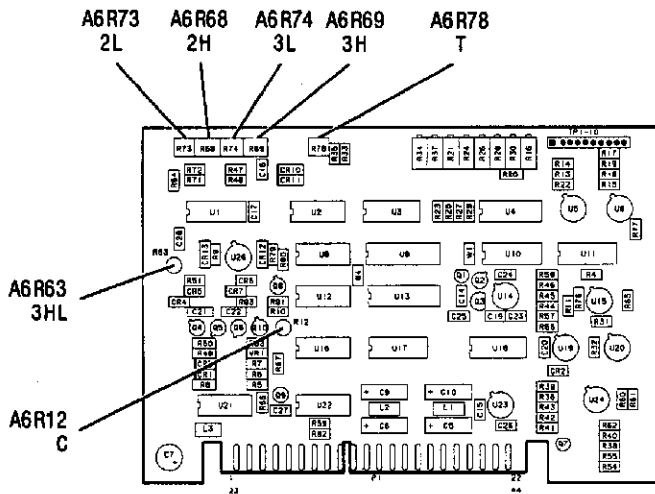

Figure 5-22. SRD Bias Adjustment Locations
5. Adjust A6R73 (2L) and A6R68 (2H) until Band 2 is at maximum power across the band. A6R73 adjusts the low frequency end of Band 2 and A6R68 adjusts the high end. Refer to Figure 5-22 for adjustment locations.